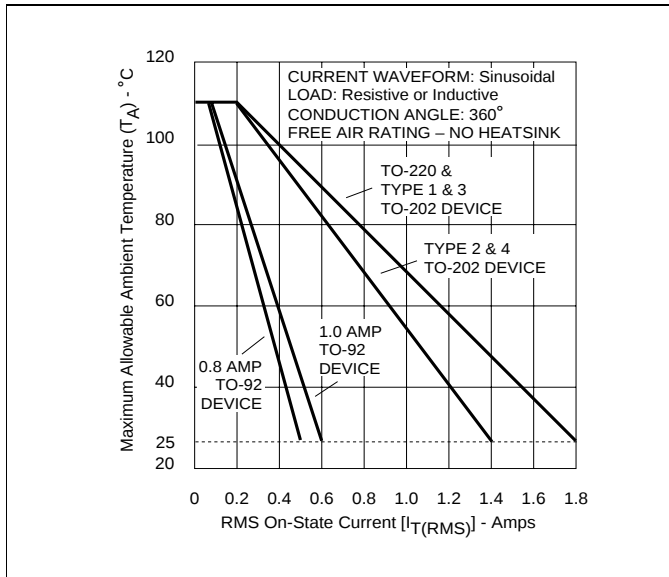

Figure 1.1 Maximum Allowable Ambient Temperature vs On-State Current
- (11) See Figures 1.1, 1.2, and 1.3 for T_A or T_C vs I_T (RMS).
- (12) Pulse width $\leq 10\mu s$.
- (13) $T_C = T_J$ for test conditions in off-state.